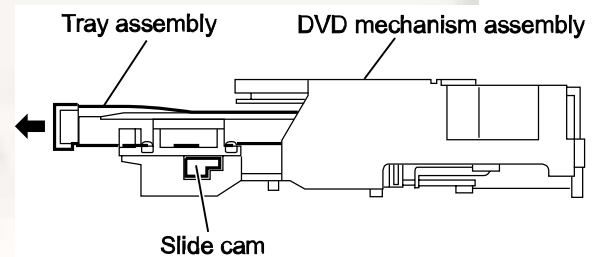

Fig.1
(See Figs.1 to 3)
- (1) From the right side of the DVD mechanism assembly, push the slide cam and pull the tray assembly out of the DVD mechanism assembly in the direction of the arrow. (See Fig.1.)